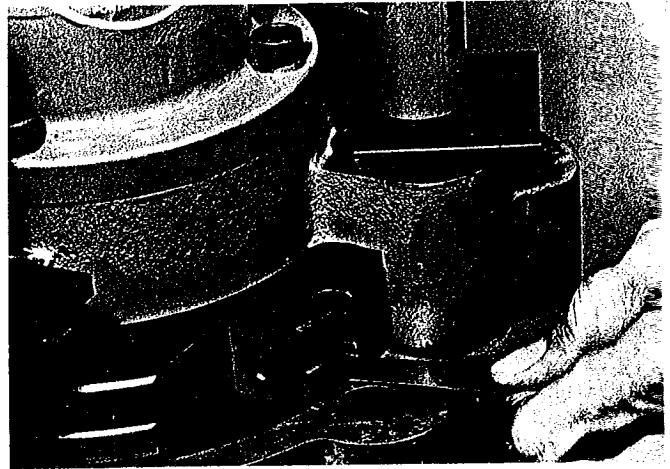

Fig. 7 Use of Feeler Gauge to Set Depth of Cut
6. Place the 0.004 inch feeler gauge between block and the cutter (13). Lower the cutter (13) the feeler gauge by turning the needle valve knob while pushing down very gently. (See Fig. 7).